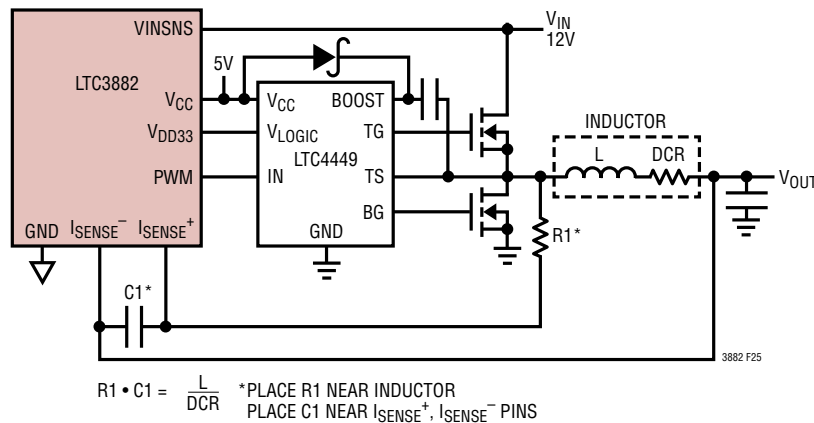

Figure 25. Inductor DCR Output Current Sense
The transfer function of the Type 3 circuit shown in Figure 25 is given by the following equation:
5. Place the output current sense resistor (if used) immediately adjacent to the inductor output. PCB traces for remote voltage and current sense should be run together back to the LTC3882 in pairs with the smallest spacing possible on any given layer on which they are routed. Avoid high frequency switching signals and ideally shield with ground planes. Locate any filter component on these traces next to the LTC3882, and not at the Kelvin sense location. However, if DCR sensing is used, place the top resistor (R1, Figure 25) close to the switch node.
To maximize efficiency at full load the LTC3882 is designed to sense current through the inductor's DCR, as shown in Figure 25. The DCR of the inductor represents the small amount of DC winding resistance of the copper, which for most inductors suitable to LTC3882 applications, is between  $0.3m\Omega$  and  $1m\Omega$ . If the filter RC time constant is